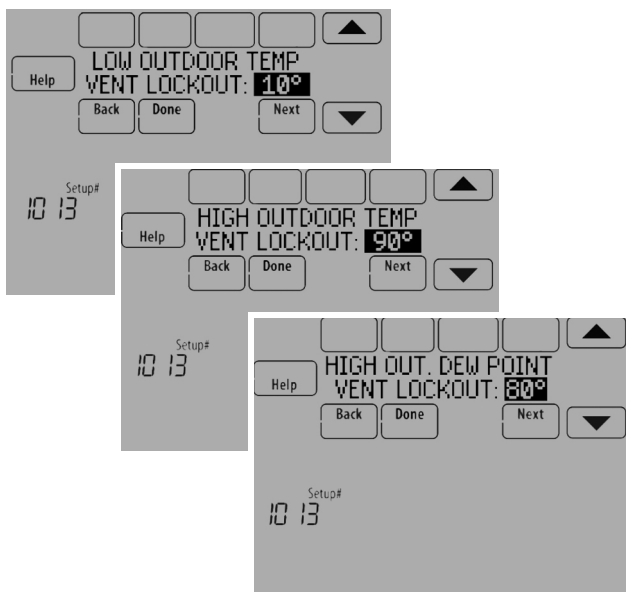

Fig. 234.
- Select the Outdoor Condition Lockouts. See Fig. 234. See "Ventilation — Outdoor Condition Lockouts (ISU 1013)" on page 91 for more information.